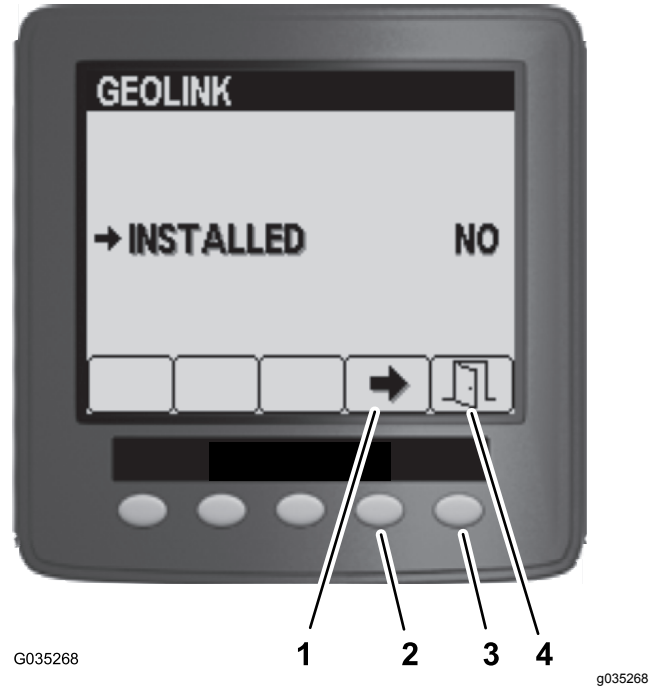

Figure 102
5. On the GeoLink menu, press button 4 to select the No option, and press the button 5 to save your settings and exit the menu (Figure 102).